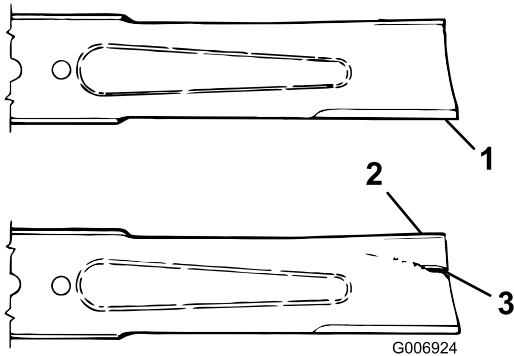

Figure 31
1. Inspect the cutting edges (Figure 31). If the edges are not sharp or have nicks, remove the blade and sharpen them; refer to Sharpening the Blade.
2. Inspect the blade, especially the curved area (Figure 31). If you notice any damage, wear, or a slot forming in this area, immediately install a new blade.